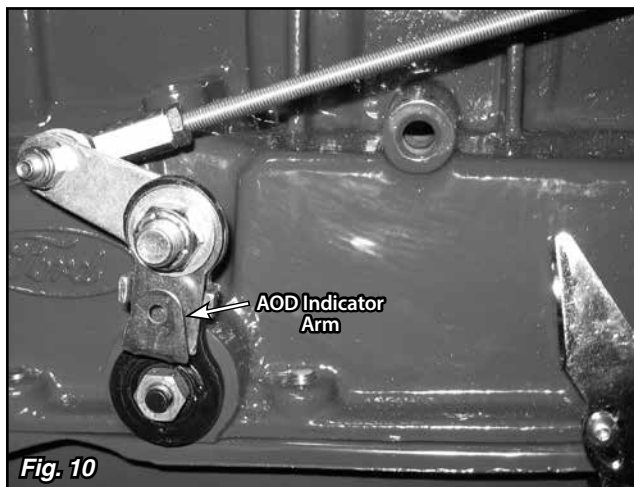

Fig. 10
- **With any type of selector shaft EXCEPT a Lokar selector shaft:** Install the AOD indicator arm onto the trans arm. The open part of the "J" shape in the AOD indicator arm should face away from the selector shaft. **Fig. 10**